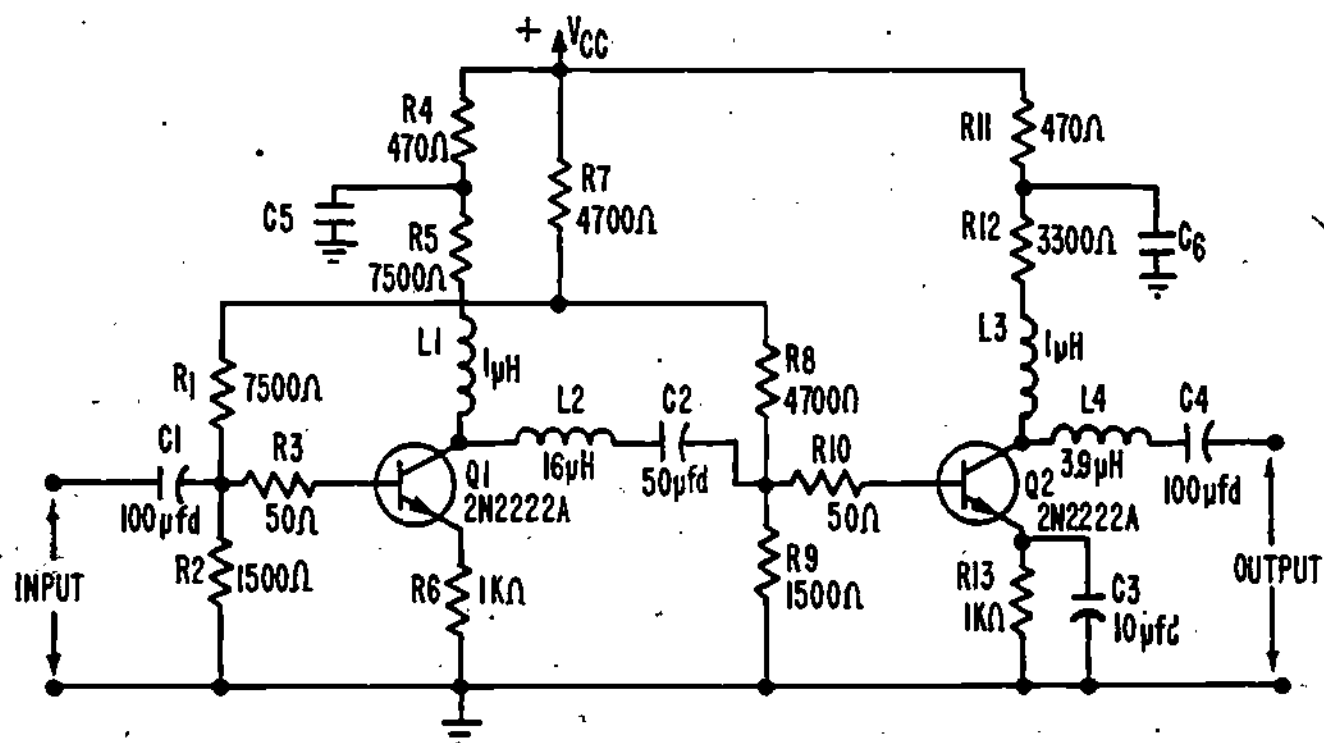

Figure 22
19. Let's take another look at the two-stage video amplifier circuit shown in Figure 22 and examine the components which provide forward bias and emitter stabilization.
In Figure 22, Class A forward bias for Q2 is provided by components